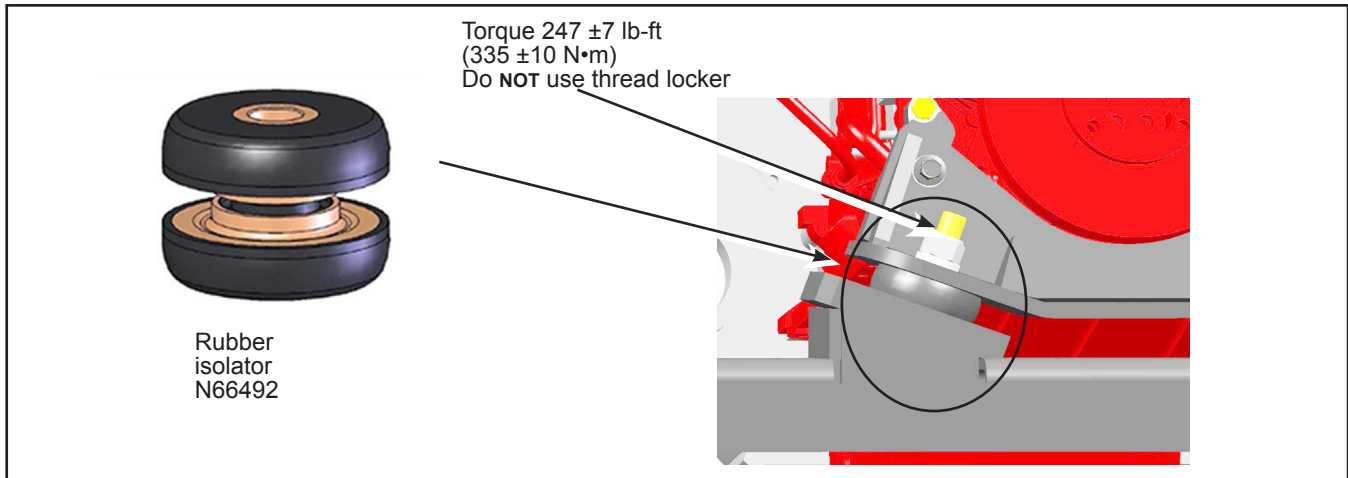

Figure 11 - Rubber Isolator Installation
- 1.36. Affix the rubber isolators with the retained hardware. Tighten to the torque specified in Figure 11.